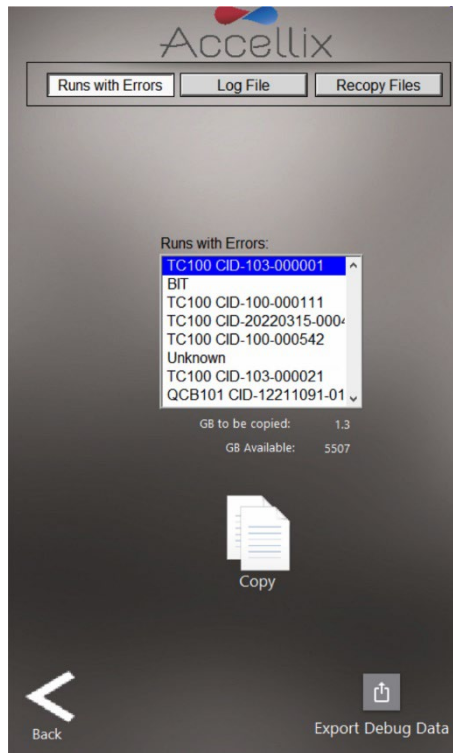

Figure 23: Copy Test Runs with Errors screen
1. If **Runs with Errors** tab is selected, files related to test runs for which errors were generated can be selected and copied (Figure 23). Individual cartridge data folders can be selected together by holding down the Control Key on an external keyboard attached while tapping an entry in the list. Tap the **Copy** Icon.